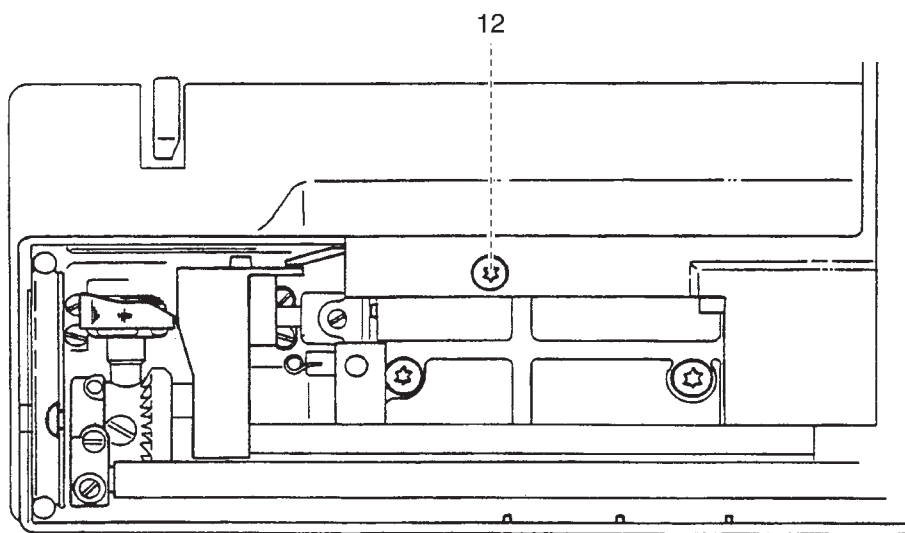

Fig. 7
- Remove fastening screw 12 (fig. 7).